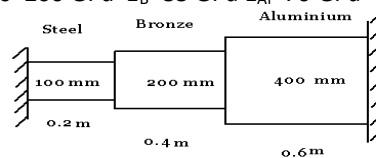

Figure 7
36. A compound bar consist of steel, copper and aluminum bars connected in series is held between two supports as shown in **Figure 7**. When the temperature of the compound bar is increased by 50°C , determine stresses induced in each bar. Consider the two cases i) Rigid supports ii) support yield by 0.5mm. Take $\alpha_s=12\times 10^{-6}/^\circ\text{C}$, $\alpha_B=19\times 10^{-6}/^\circ\text{C}$, $\alpha_{Al}=22\times 10^{-6}/^\circ\text{C}$, $E_s=200 \text{ GPa}$, $E_B=83 \text{ GPa}$, $E_{Al}=70 \text{ GPa}$